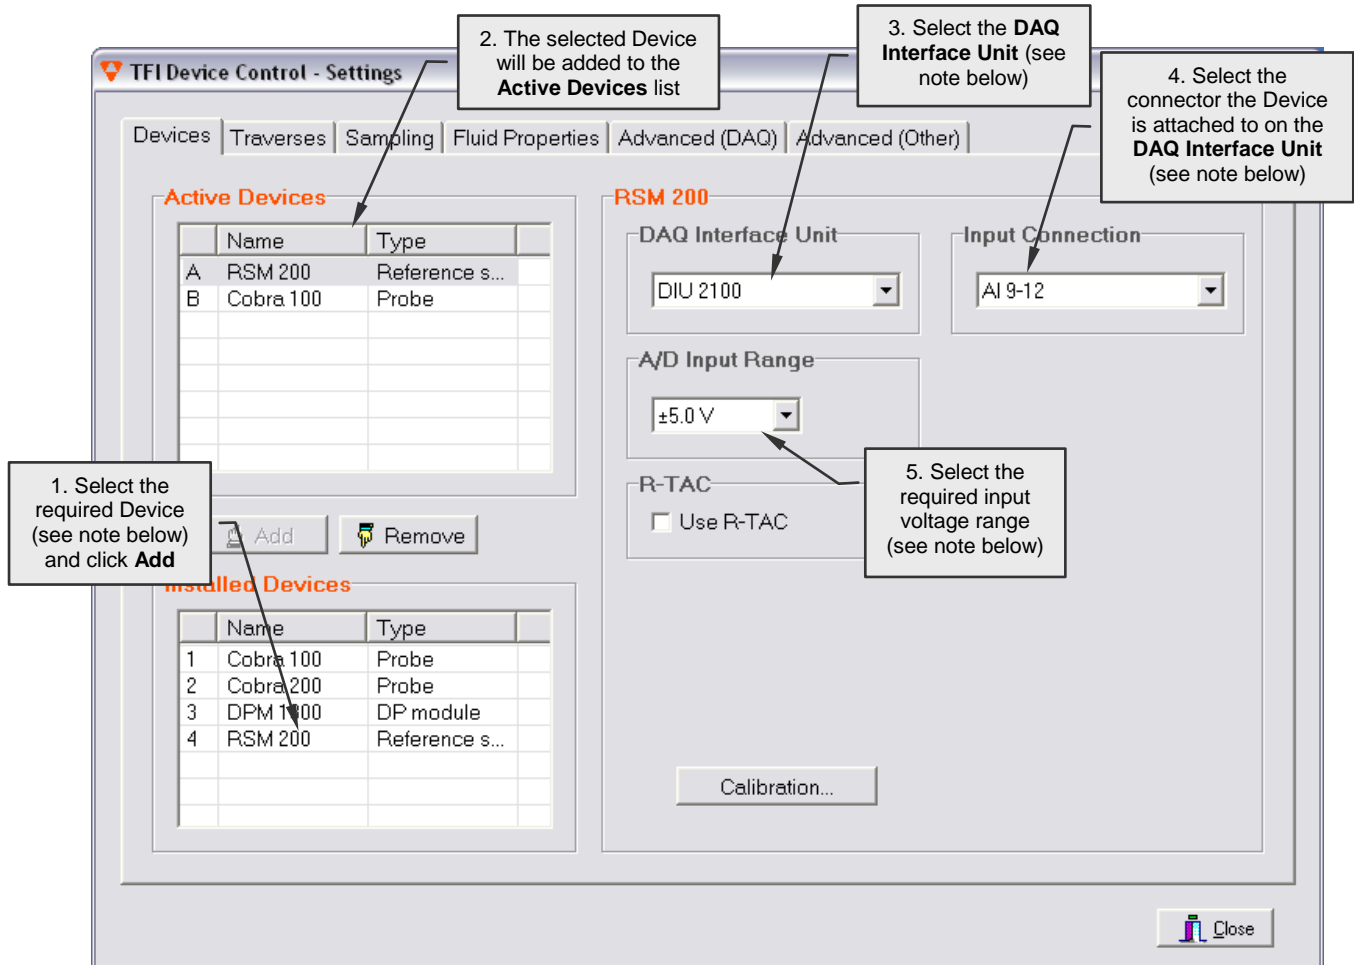

Figure 6: Software configuration – Adding and configuring devices
- To choose and configure the devices that you wish to use, select the **Devices** tab (or choose **Devices** from the **Settings** menu) and refer to Figure 6.
- Repeat the steps shown in Figure 6 for each additional RSM or other device.